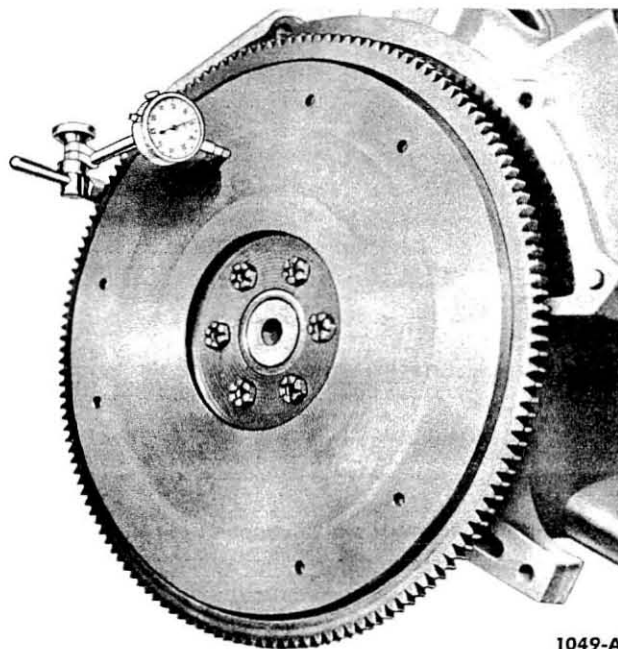

Fig. 40—Flywheel Face Runout—Typical
**FLYWHEEL FACE RUNOUT.** Install a dial indicator so that the tip bears against the flywheel face (Fig. 40). Turn the flywheel, making sure that it is full forward or rearward so that crankshaft end play will not be indicated as flywheel runout.